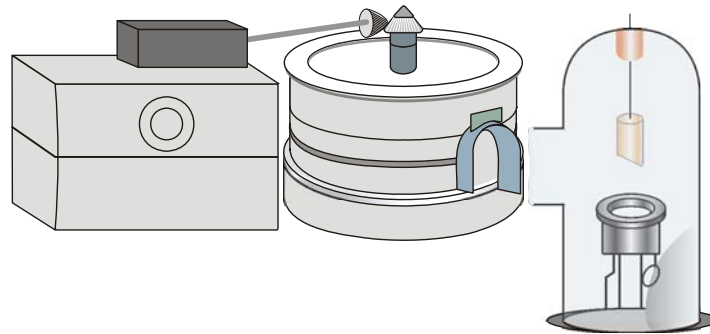

Fig. 8 Debye-Scherrer camera with motor drive
- If required, also set up the motor drive (1000662 or 1000663) as in Fig. 8. Plug its connectors into the 4-mm socket. Make sure